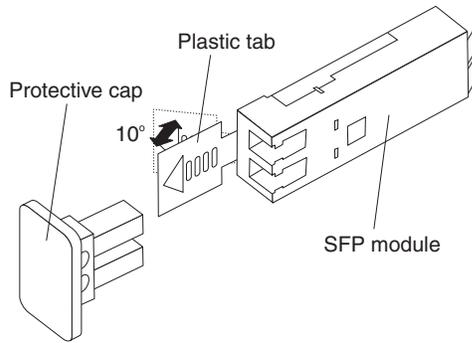

Figure 55. Unlocking the SFP module latch - plastic variety
- For SFP modules that contain plastic tabs, unlock the SFP module latch by pulling the plastic tab outward 10°, as shown in Figure 55 on page 70.